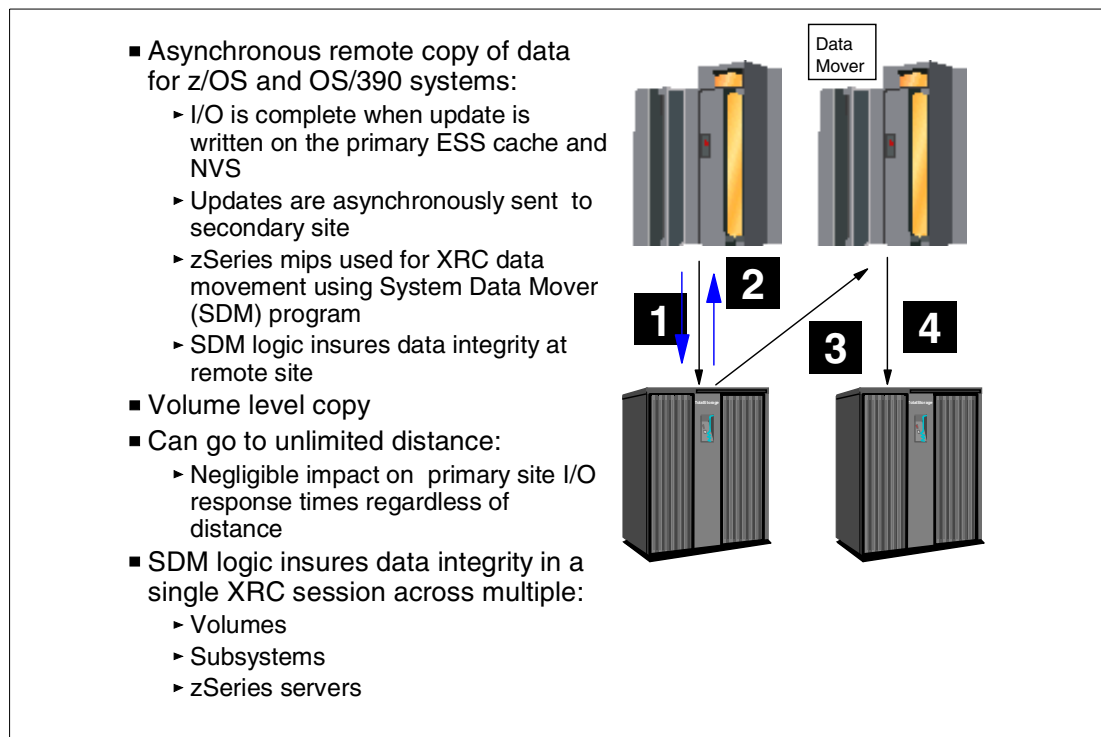

Figure 7-17 Extended Remote Copy
Applications doing write I/Os to primary (source) volumes — (1) in Figure 7-17 — get a Device End status (write I/O complete) as soon as the data has been secured in cache and NVS of the primary ESS (2). The System Data Mover that may be running at the recovery site host reads out the updates to the XRC source volumes from the cache (3) and sends them to the secondary volume on a remote storage control (4).